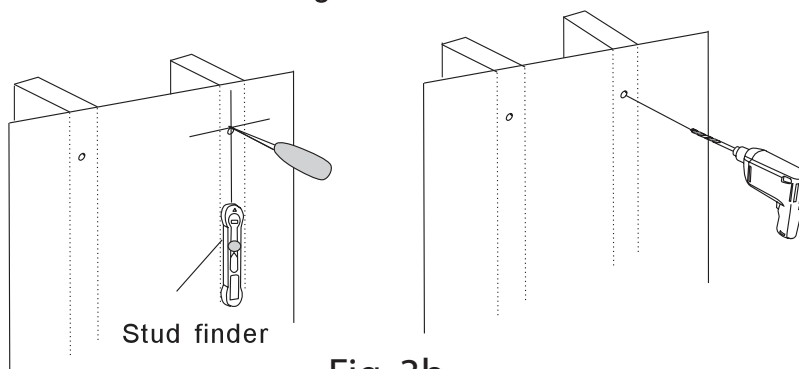

Fig. 3b
2. Place the wall mount flat against the wall with the center of the mount in the desired location, aligning the holes in the mount with the studs (Fig 3b). Use the wall plate as a template to mark the location of the four mounting holes on the wall. Make sure that the mounting holes are level and are parallel.
4. Use a wrench, the four long bolts (A), and washers (C) to attach the wall mount to the wall. Do not use wall anchors in wood stud walls.
5. Use the magnet level (3) placed on the front of the mounting plate to level the wall mount, repositioning as necessary, then firmly tighten the bolts. Do not overtighten.